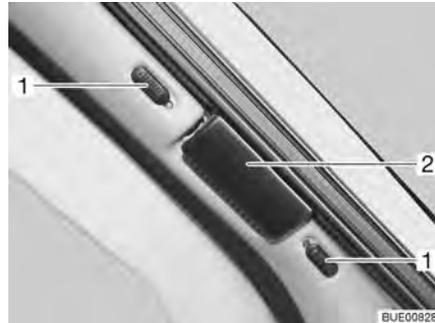
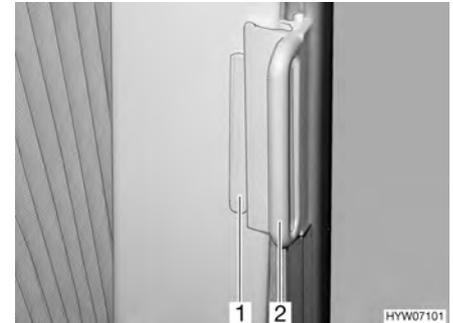

Fig. 71 Roman shade for the windscreen
Fig. 72 Roman shades for driver's window and front passenger's window
- On the Roman shade for the windscreen, push the locking knobs (Fig. 71,1) upwards or downwards. If the red dot is visible, the lock is open.
- Grasp the handle (Fig. 71,2 and Fig. 72,2) of the Roman shades and draw carefully until the magnetic catch keeps the Roman shades closed.
- On the Roman shades for the driver's and passenger's window, push the handle (Fig. 72,2) onto the cap (Fig. 72,1). The Roman shade is secured.